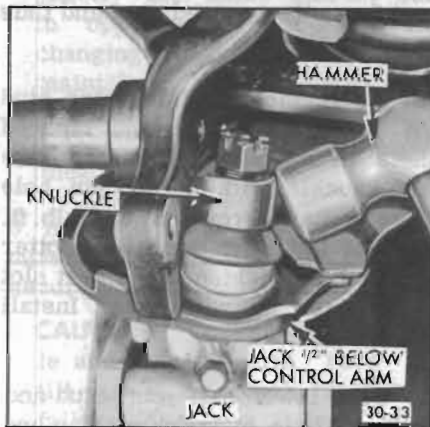

Figure 30-36—Separating Steering Knuckle from Ball Joint
3. Loosen, but do not remove nut. Force of chassis spring will be tending to disengage ball joint tapered stud from steering knuckle. Rap knuckle sharply in area of tapered stud to disengage stud from knuckle. See Figure 30-36.
8. Rap the steering knuckle in the area of the stud to separate the stud from the knuckle. See Figure 30-36.